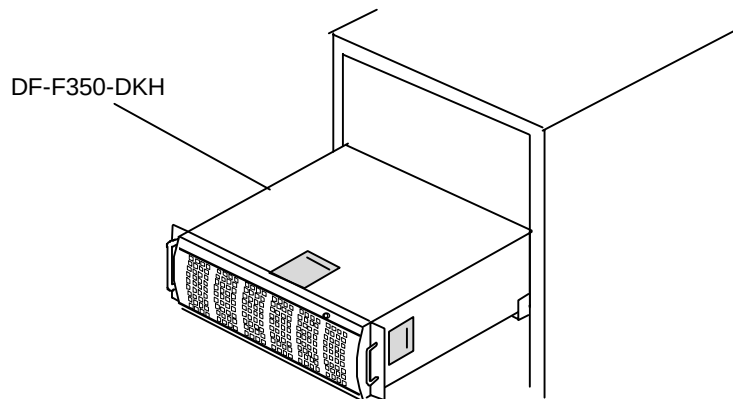

Figure 1.4.5 Installing the Subsystem in the Rack
1.4.5 Installing the subsystem into the rack (See Figure 1.4.5.)